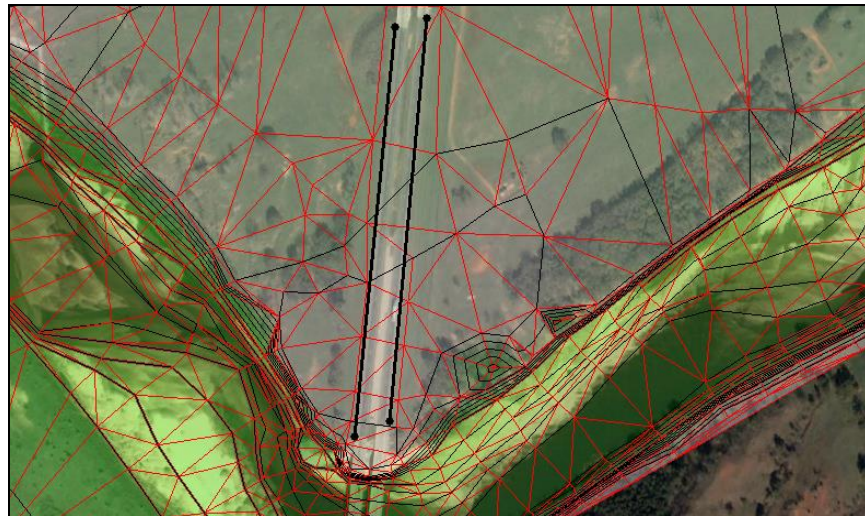

Figure 20 Arcs along embankment edges of the road
1. **Zoom**  in to the area shown in Figure 20.
3. Using the **Create Feature Arc**  tool, create two arcs as shown in Figure 20. No intermediate vertices are required at this time.